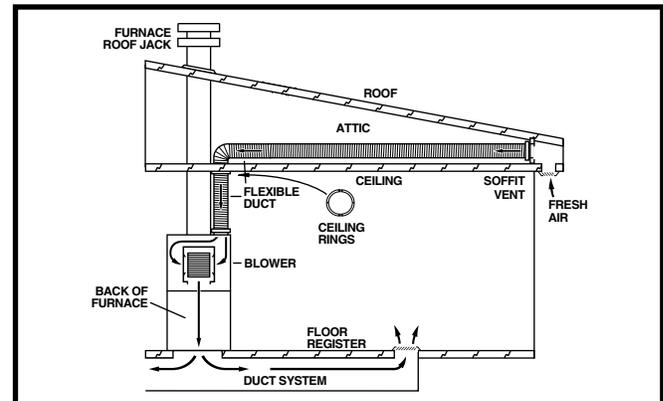

Figure 5. General Install Setup
- Route flexible duct through ceiling hole between the roof opening and the furnace area. See Figure 5.